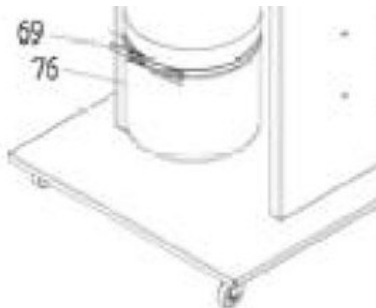

Fig. 14: Replace chip bag
Step 2: Loosen hose clamp (Pos.69, Fig.14) and remove chip bag.